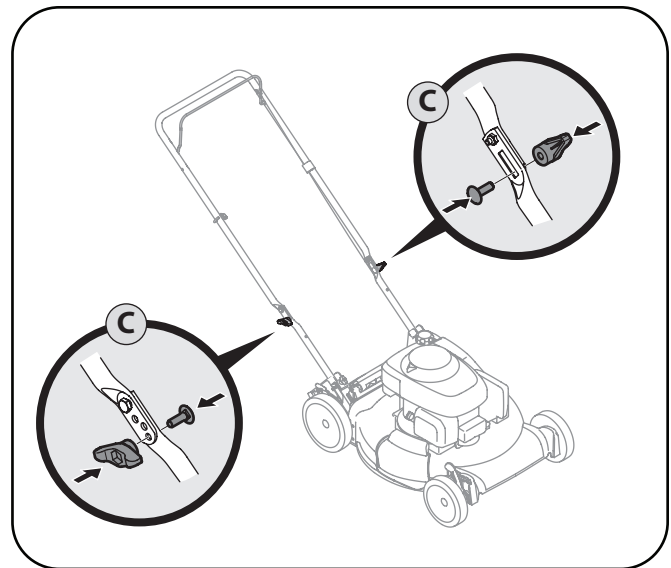

Figure 3-5
- c. Reattach wing nuts and carriage bolts removed earlier into lower holes of handle as shown in Fig. 3-5.